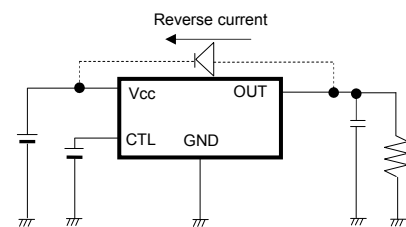

Fig. 36: Bypass diode
- This IC is bipolar IC that has a P-board (substrate) and P+ isolation layer between each device, as shown in Fig.36. A P-N junction is formed between this P-layer and the N-layer of each device, and the P-N junction operates as a parasitic diode when the electric potential relationship is GND > Terminal A, GND > Terminal B, while it operates as a parasitic transistor when the electric potential relationship is Terminal B > GND > Terminal A. Parasitic devices are structurally inevitable in the IC. The operation of parasitic devices induces mutual interference between circuits, causing malfunctions and eventually the destruction of the IC. It is necessary to be careful not to use the IC in ways that would cause parasitic elements to operate. For example, applying a voltage that is lower than the GND (P-board) to the input terminal.